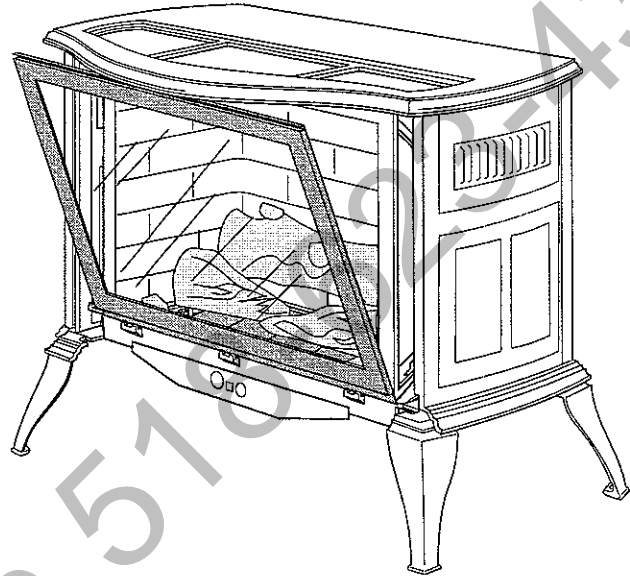

Fig. 24. Replace the glass and frame assembly.
- Replace the glass and frame assembly by resting the bottom edge of the frame on support brackets below the front opening of the firebox. Swing the top edge of the assembly toward the firebox, and center it. Fasten it by closing the latches over the top left and right edges of the frame. Fig. 24